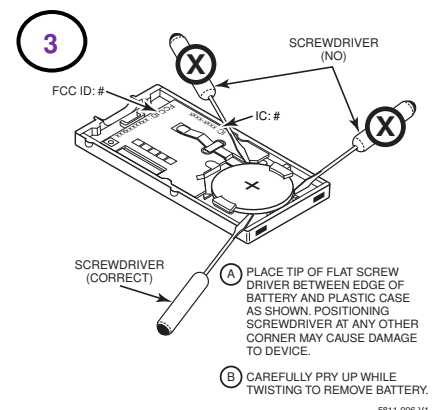

Figure 3. Battery Removal
2. Remove the old battery cell using a small flat screwdriver into the latch and gently twisting it until the cover becomes removable (see figure 3).
NOTE: The FCC ID and IC Certification number is on the back of the plastic case, or see the diagram in the “*Figure 3: Battery Removal*” section for the alternate location.